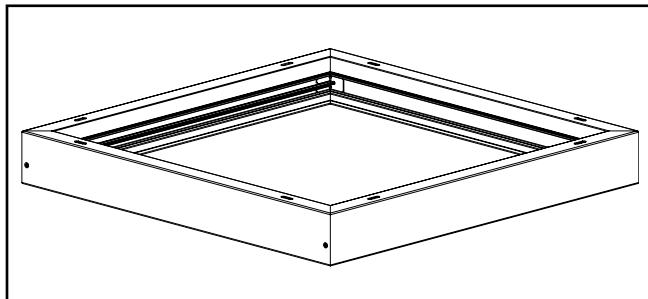

Figure 5.
4. Repeat steps to form the other three (3) corners of the surface mount box. (Figure 5.)